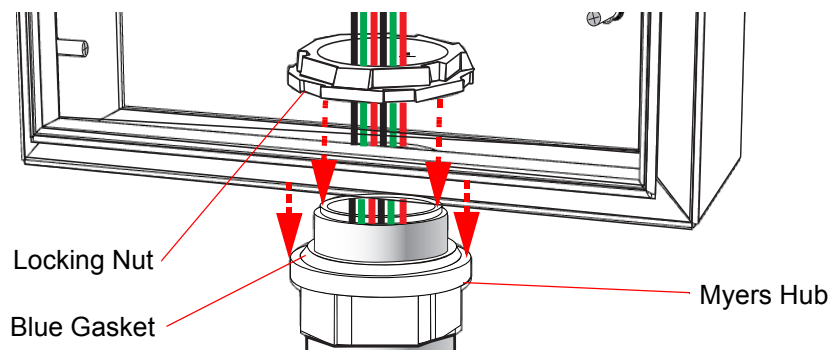

Figure 8. Attaching the QuadZilla Enclosure Onto the Pole
15. Lower the QuadZilla enclosure onto the top of the Myers hub (Figure 8).